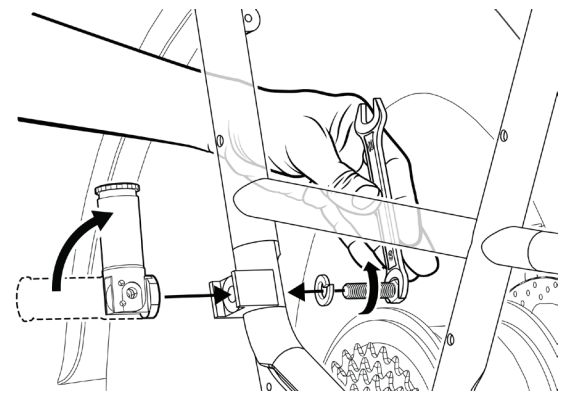

Figure 1: Installing a foot peg
- Place one foot peg over the mounting point and insert the bolt on the other side of the frame (Figure 1).